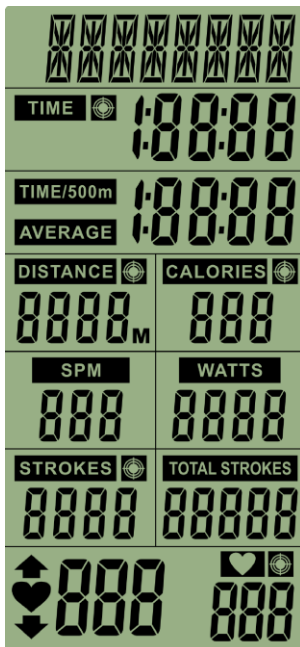

fig. 1
1. Insert 4*AA batteries. The display will show full display (fig. 1) for approx. 2 seconds along with an acoustic signal. Computer is then in ready mode.